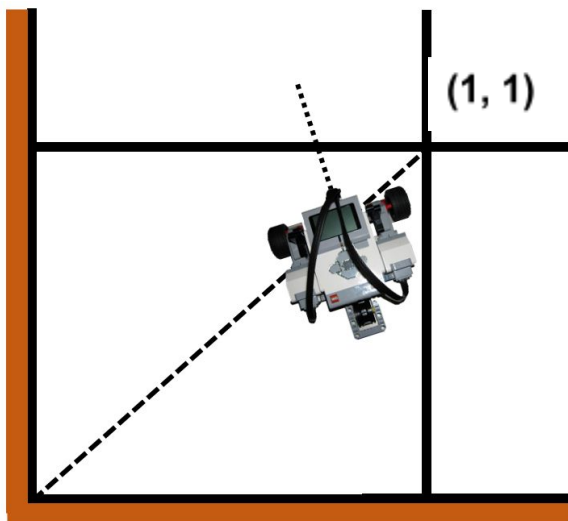
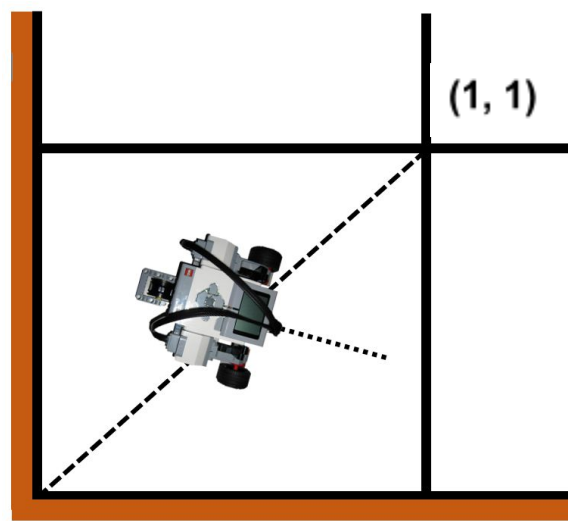

Figure 1. Robot's Starting Orientation A.
Figure 2. Robot's Starting Orientation B.
As shown in **Figure 1**, the robot is placed along the 45° line (thick dotted) inside the bottom-left tile of the 4×4 field grid. The **brown-colored** walls represent walls used for the **ultrasonic localization**. Please note that the robot could be placed in **ANY ORIENTATION** and **POSITION** along this 45° line. For example, **Figure 2** shows another orientation and position of the robot's starting position compared to that in **Figure 1**.
After the measurement is complete, the robot should then move to the (1, 1) point as shown in **Figure 1** and **Figure 2**. Once **ultrasonic/light localization** is performed at this point, two error quantities are measured by the TA: the *Euclidean distance error* ϵ between the robot's actual position (X_F , Y_F) and the (1, 1) point, and the *orientation error* with respect to the 0° axis.
1. Place the robot in a tile corner along the 45° line (**Figure 1**), where two walls are present.
1. **Do I need to implement my robot's localization routines using the same 0° axis shown in Figure 1 and Figure 2 (that is, along +y axis)?**